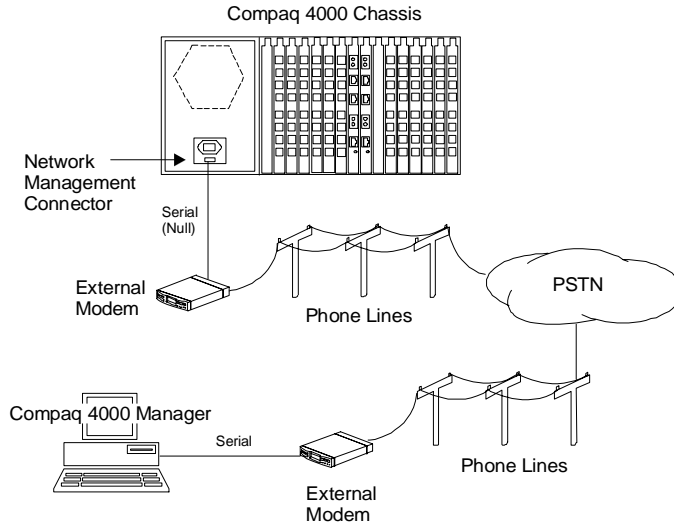

Figure 2-16. Connecting to an External Modem
2. Attach one end of a serial null modem cable to the network management connector on the rear of the chassis' power supply. See Figure 2-16.
3. Attach the other end of the serial null modem cable to the modem's serial port. See Figure 2-16.